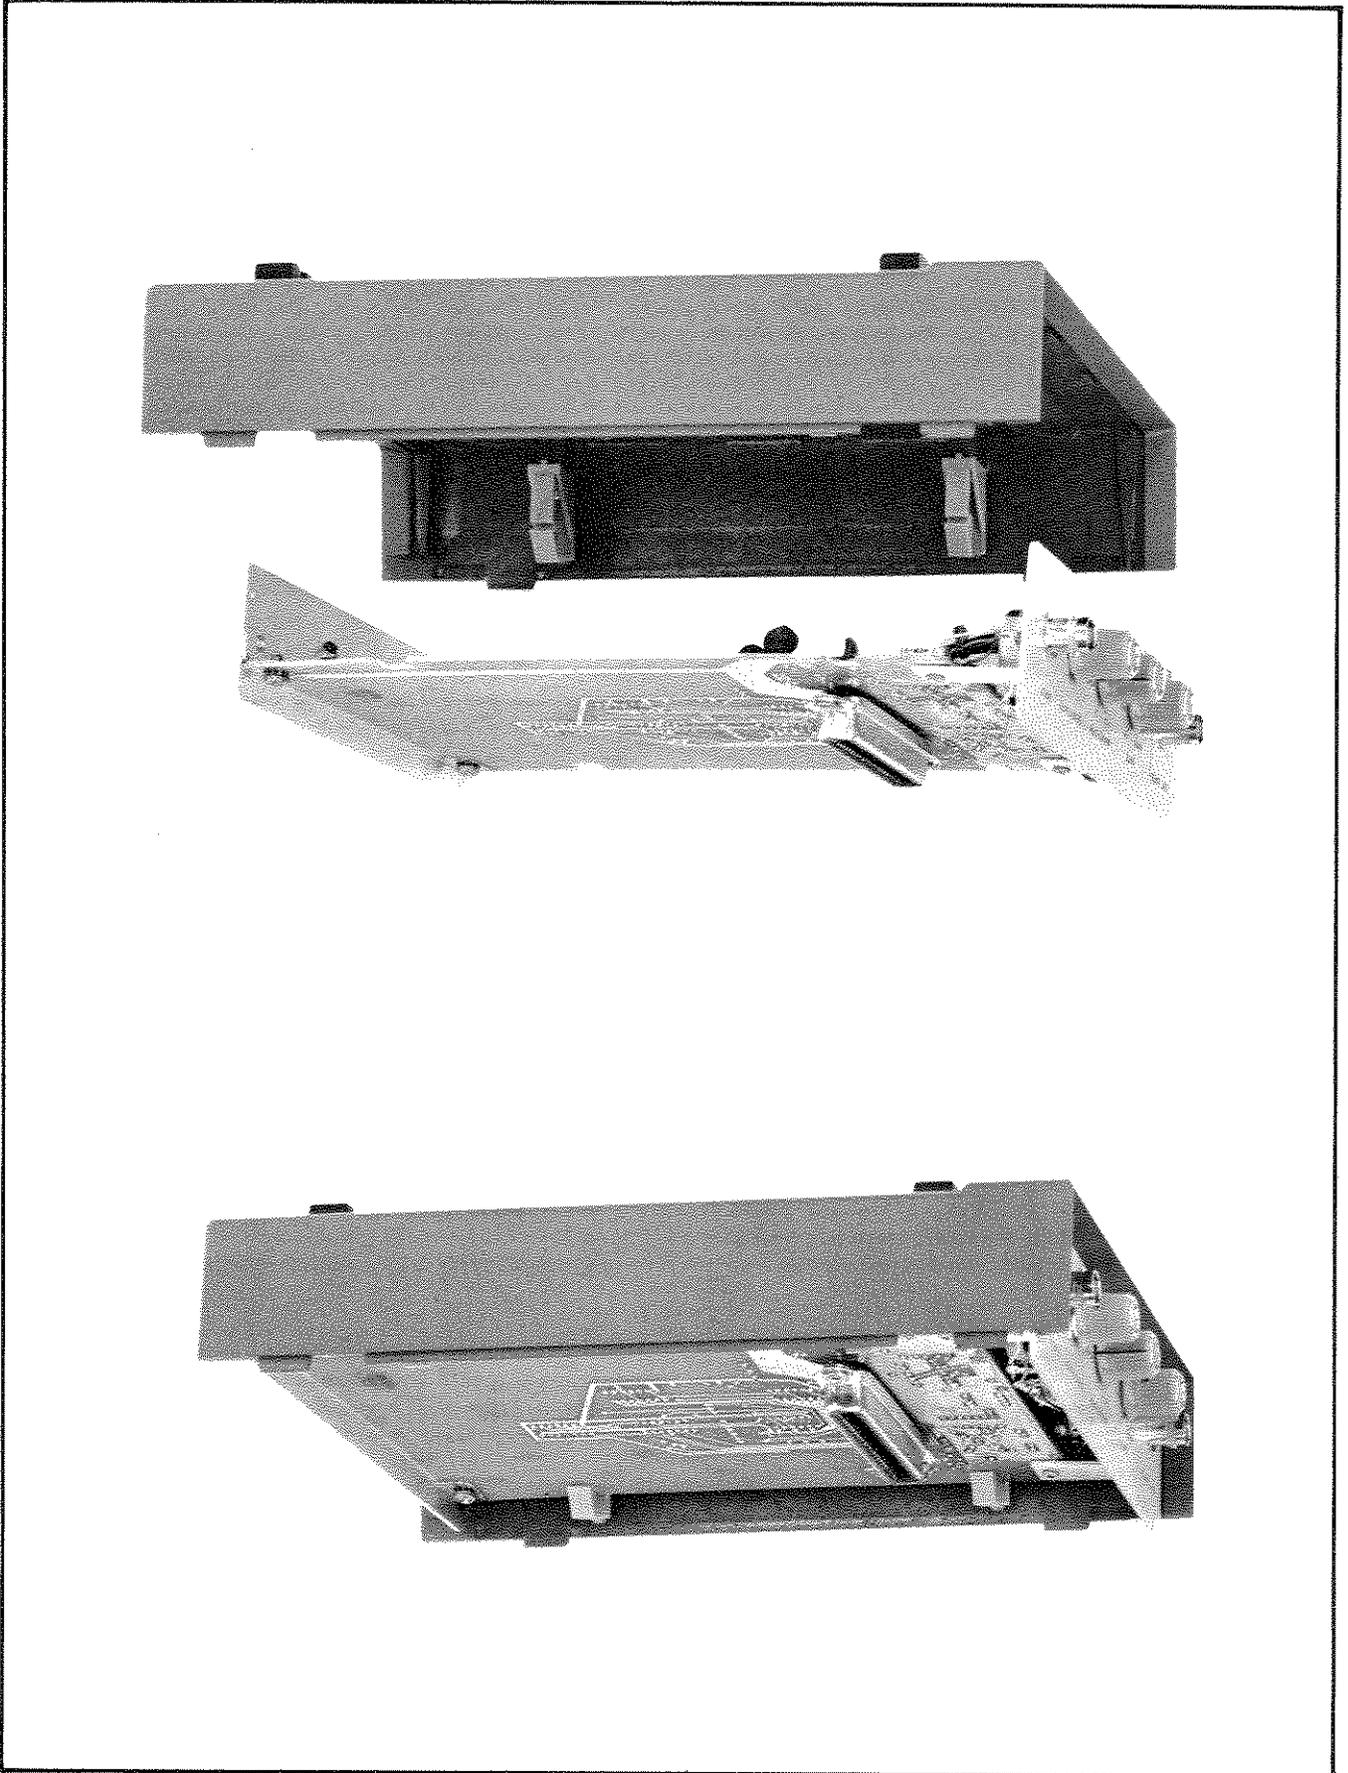

Figure 9D-5-1. Separation Procedure
- e. Separate 5304A AI BOARD ASSEMBLY from 5304A casting as follows (refer to Figure 9D-5-1):
9D-5-15. Figure 9D-5-2 to Figure 9D-5-6 are troubleshooting flow diagrams for each of the five modes of operation. Signal flow is outlined for each mode and waveform test points and voltage level are indicated. The waveforms or voltage level for each mode is included with the figures. To obtain the waveforms and/or levels for each mode, follow the directions for instrument connections which are listed with the troubleshooting flow diagrams of each respective mode.